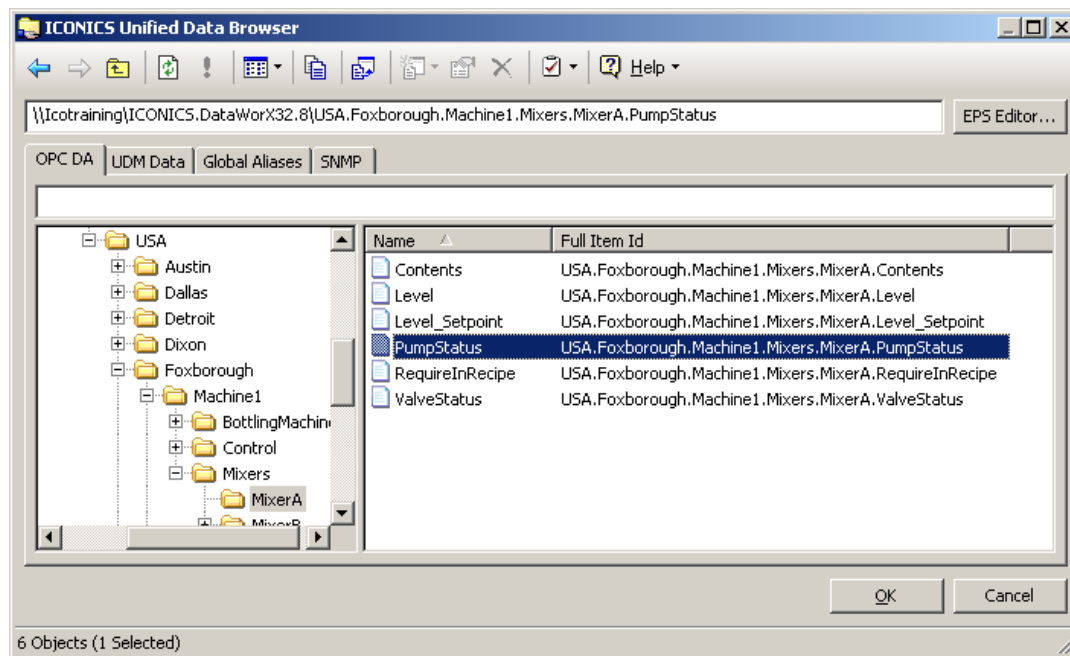

Figure L5.4 - Unified Data Browser with PumpStatus Tag
10. On the OPC DA tab, browse to Internet → OPC Direct → *ComputerName* → ICONICS.DataWorX32.8 → Registers → USA → Foxborough → Machine1 → Mixers → MixerA → PumpStatus, and select PumpStatus as shown in Figure L5.4. The field at the top of the UDB should contain a tag like the following: